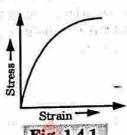

Fig. 1.4.1.
- The typical stress-strain relation in a brittle material like cast iron is shown in Fig. 1.4.1.